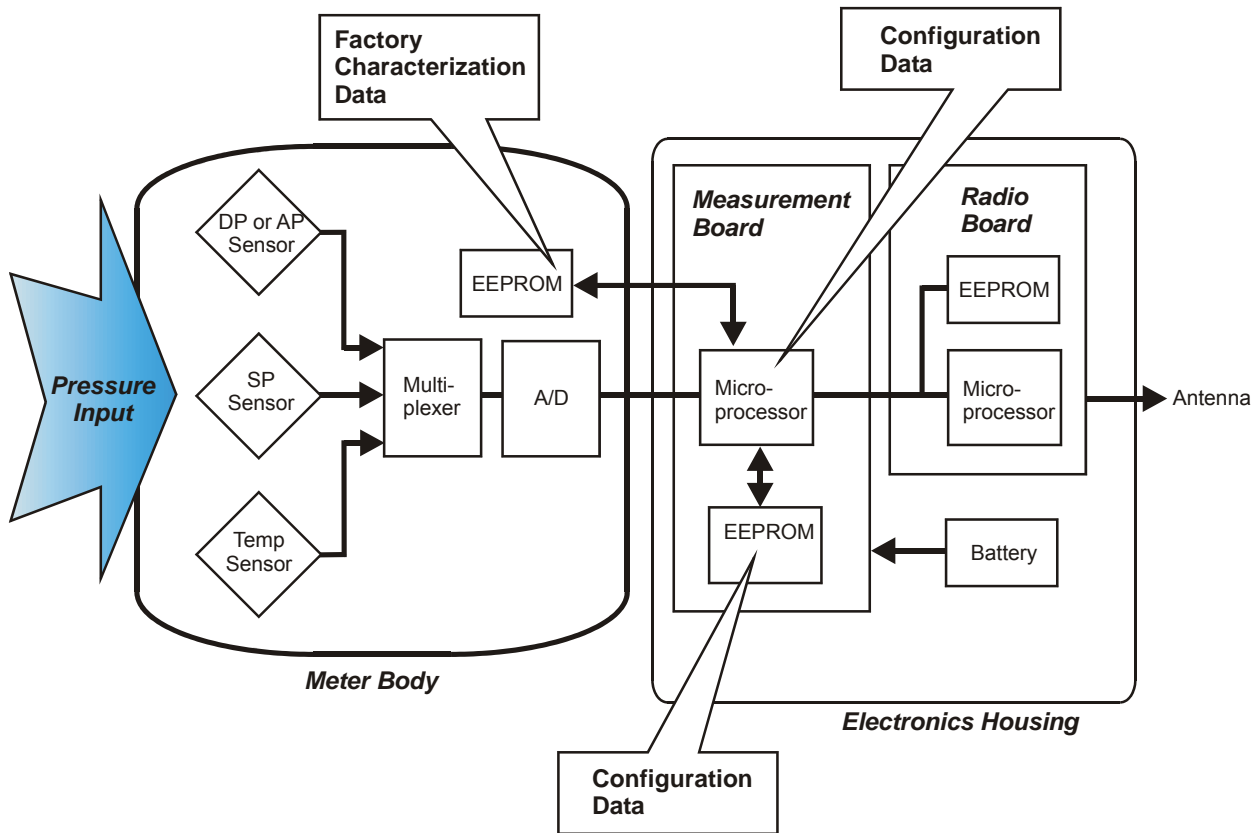

Figure 1 XYR 6000 Functional Diagram
The transmitter measures the process pressure and transmits the measured value as a digital output signal in user-configured engineering units. Its major components are an electronics housing and a meter body as shown in Figure 1 (a typical differential pressure model transmitter).
The Process Variable (PV) is available for monitoring and alarm purposes. Available PV update rates: 1, 5, 10, 30 seconds and are set on Wireless Builder. Slower update rates extend battery life. The meter body temperature is also available as a secondary variable for monitoring. Figure 1 shows a block diagram of the XYR 6000 Pressure transmitter's operating functions.